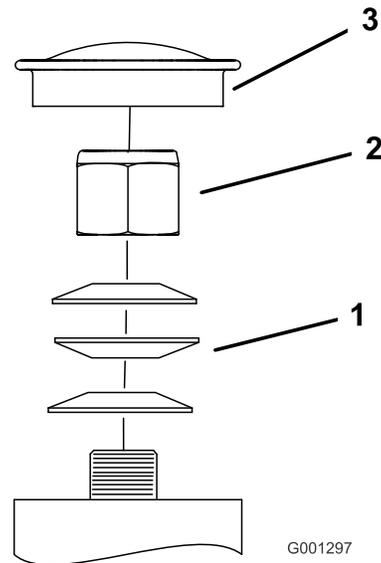

Figure 59
3. Remove the dust cap from the caster and tighten the locknut (Figure 59).
4. Tighten the locknut until the spring washers are flat, then back off a 1/4 turn to properly set the pre-load on the bearings (Figure 59).
**Important:** Make sure that the spring washers are installed correctly as shown in Figure 59.
5. Install the dust cap (Figure 59).